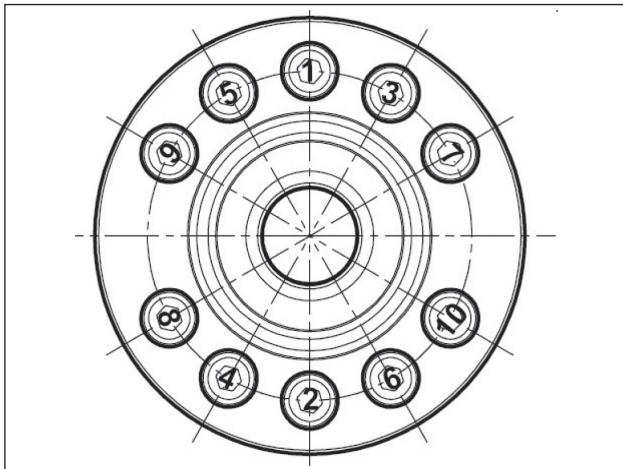

Fig. 49
**** The supports fixing screws must be tightened respecting the phases and order shown in the diagram in Fig. 49.